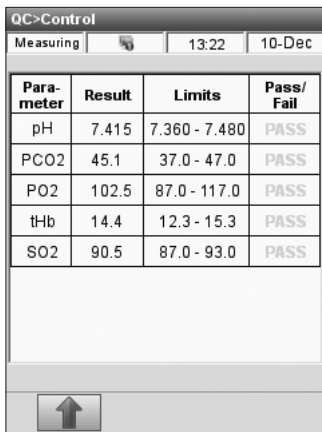

Fig. 4-23 QC Results
- Upon completion of the measurement, the results are displayed (Fig. 4-23).
18. Press  (Fig. 4-23) to accept or reject results.